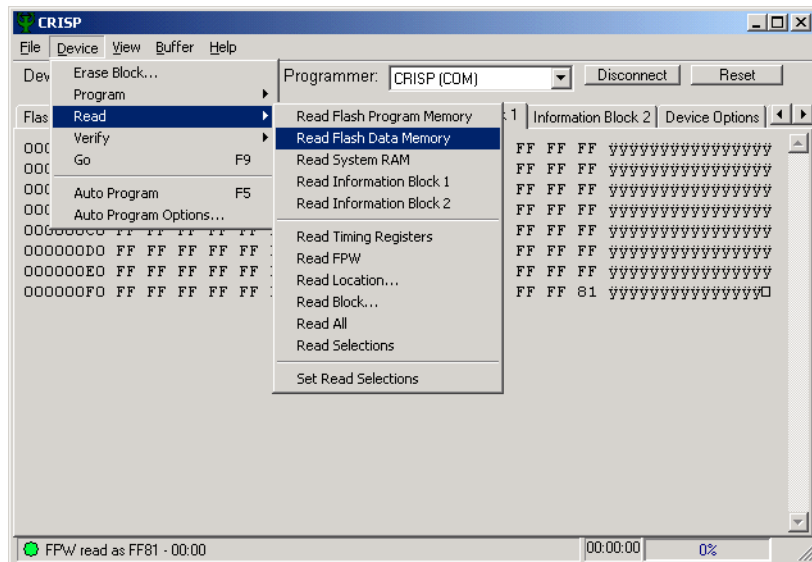

Figure 6-13. Initiating a Flash Data Memory Upload
1. **Initiate Flash Data Memory Upload.** After entering CRISP, the default contents of the Flash Data Memory buffer are empty (all bytes FFh). Select the Device -> Read -> Read Flash Data Memory command initiates an upload from the target device, as shown in Figure 6-13.